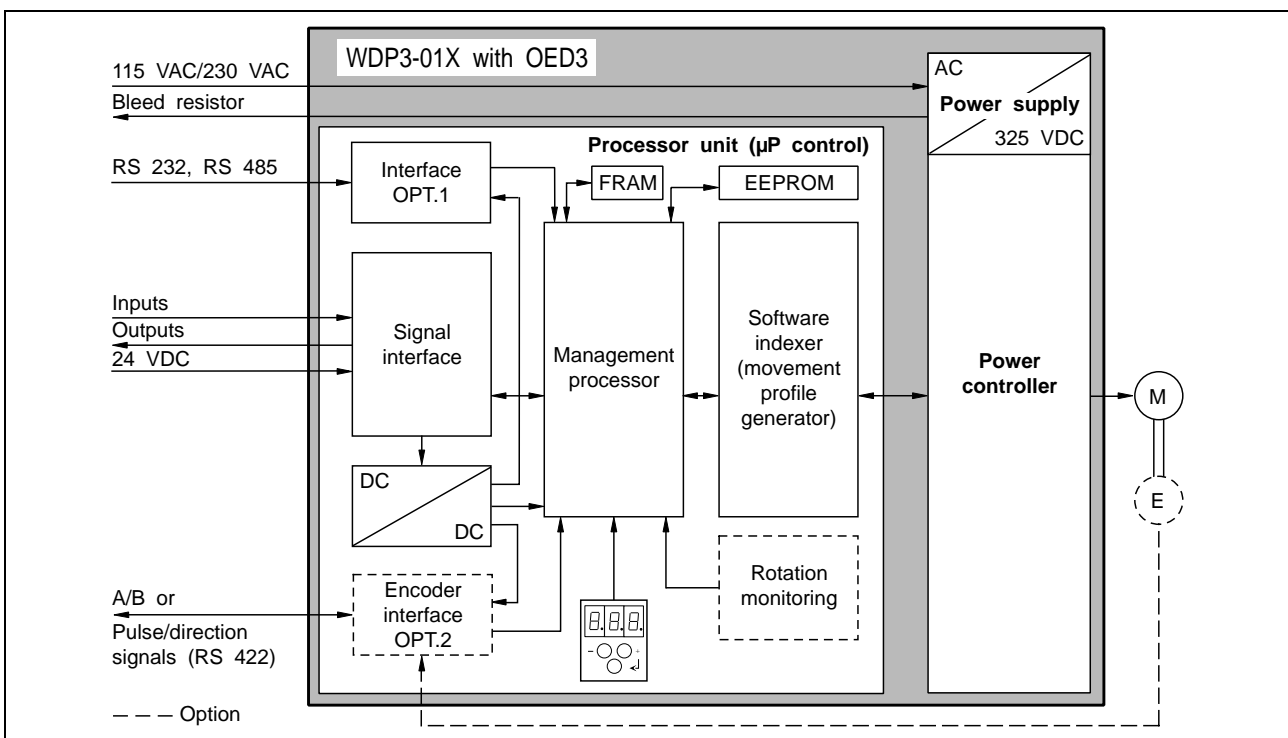

Fig. 1-2 Block diagram
1.2.1 Hardware components A built-in PC board in Eurocard format type size 6 HU accommodates the processor unit, the power controller and the power supply unit. The most important function blocks of the unit are evident in the block diagram (fig. 1-2).